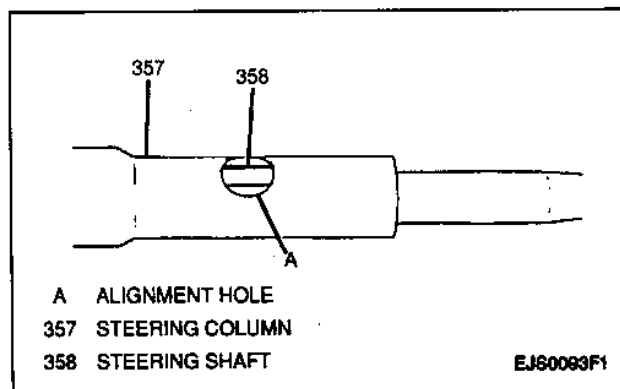

Figure 13—Aligning Steering Shaft
1. Position the oblong hole in the steering shaft so that it is visible through and in the center of the hole in the steering column (Figure 13).